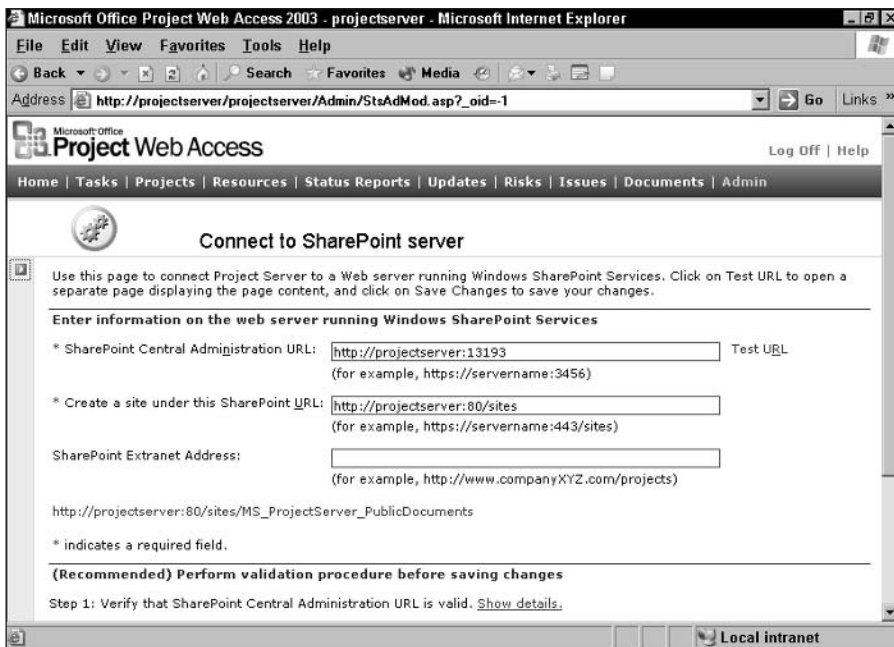
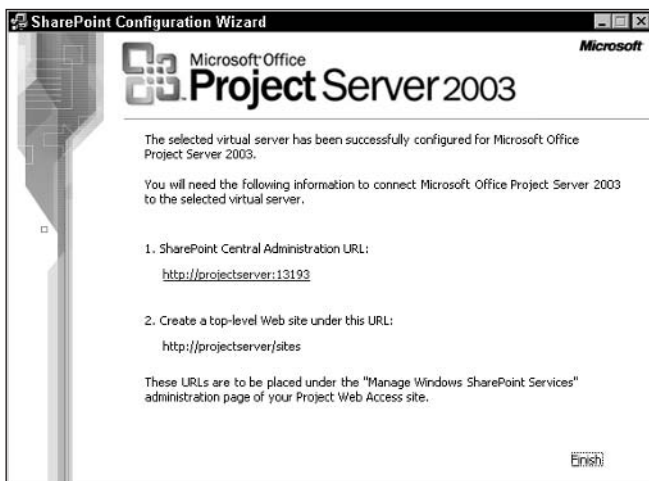

Figure 18-41: Enter the URL information that you saw after running the SharePoint Configuration Wizard.
Figure 18-42: Use this information to provide the appropriate URLs.
4. On the Connect to SharePoint server page, provide the URL information that you received after completing the SharePoint Configuration Wizard. In Figure 18-41, you see the Connect to SharePoint server page; in Figure 18-42, you see the page of the SharePoint Configuration Wizard containing the information that you need.
In Figure 18-41, I collapsed the left pane to hide the Action list by clicking the small arrow in the upper-right corner of that pane. Because I hid the Action list, you can see more of the screen. Notice that you can test the URL that you provide by clicking the Test URL link to the right of the first box in this figure. When you click the link, you should see the SharePoint Central Administration page.